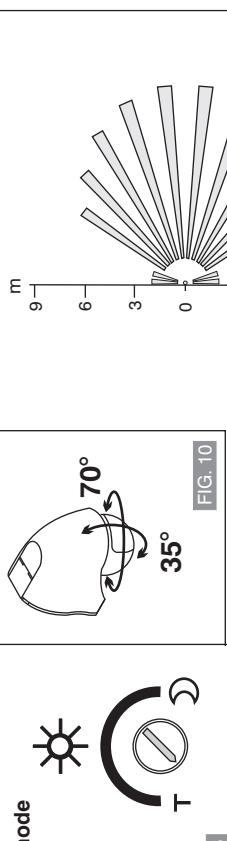

FIG. 9
- By turning the regulators (☼ and ⌚) to the right, the desired response (crepuscular 1 to 100 lux) and the switching (5 sec. to 12 min. approx.) example FIG. 9.